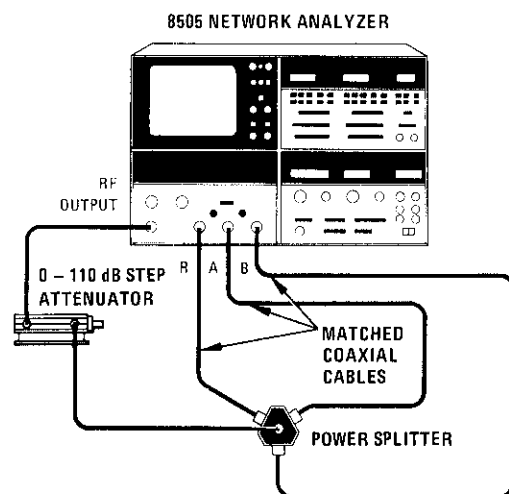

Figure A4-12. Phase Dynamic Range Test Setup
- b. Connect equipment as shown in Figure A4-12.